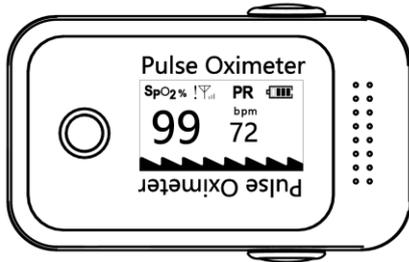
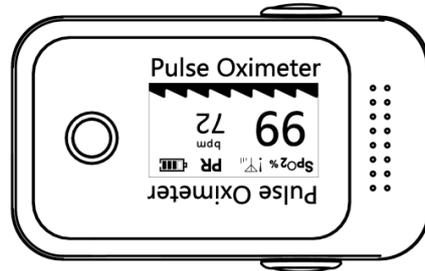

Figure 7
Figure 8
1. Press the “POWER/FUNCTION” button to power on the device. Press it again to rotate the display orientation, as shown in **Figure 7** and **Figure 8**.